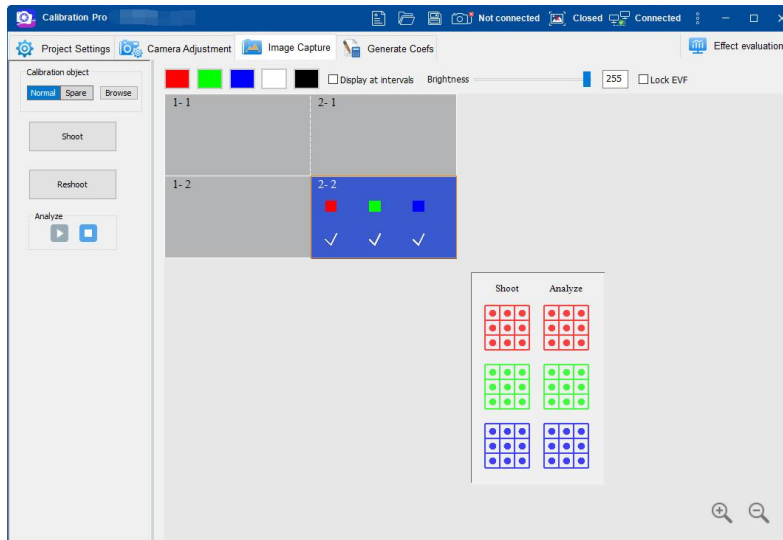

Fig.4-39 Image capture
Click **Image Capture** to access corresponding tab. In the tab, select a partition and then adjust the position of the tripod head to make the camera face the selected partition. Then, click **Shoot**. *Calibration Pro* will automatically control the camera to capture image of the selected partition and conduct analysis. Once the procedure for the partition has finished, the software will automatically repeat the same process to the next partition until all partitions are captured and analyzed. During this period, you can put the mouse on the partition that is undergoing the procedure to view the progress of the task. See Figure 4-39.
- Once a color ( Red, Green, or Blue) of a partition has been captured, it will be shown on the corresponding partition and the background color of that partition will change to light blue (see Figure 4-39).